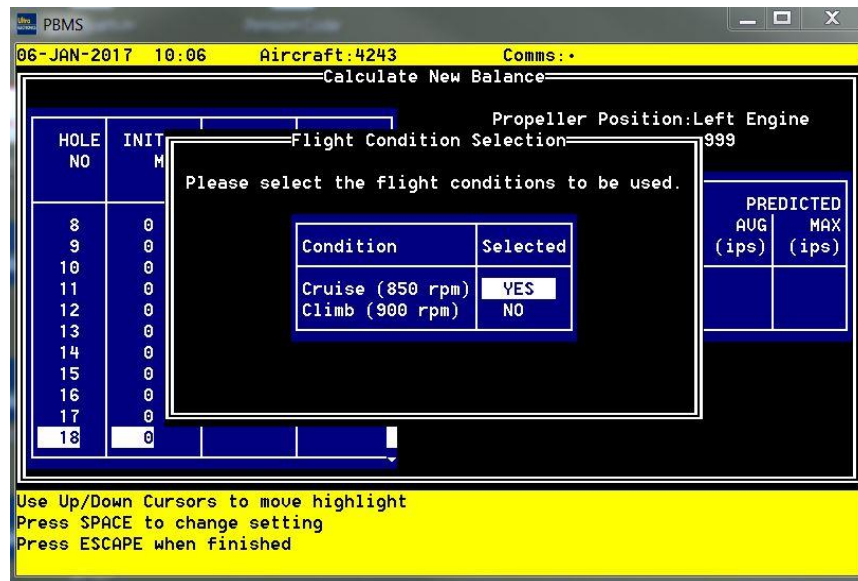

Figure 2-10 Flight Condition Selection Window
- (7) Once data has been entered for all of the hole positions, a graphical display of the balance plane can be obtained by pressing the <TAB> key. This display can be used to confirm that the data on the balance weights currently installed has been correctly entered. Press <ESC> to return to the 'Calculate New Balance' Screen. (See Paragraph J for more information on the graphical display).
- (8) Press the 'F5' key to bring up the 'Flight Condition Selection' window (Refer to Figure 2-10). Use the cursor key to highlight a flight condition category and use the <SPACE BAR> key to switch it on or off. Press <ESC> to return to the 'Calculate New Balance' Screen.